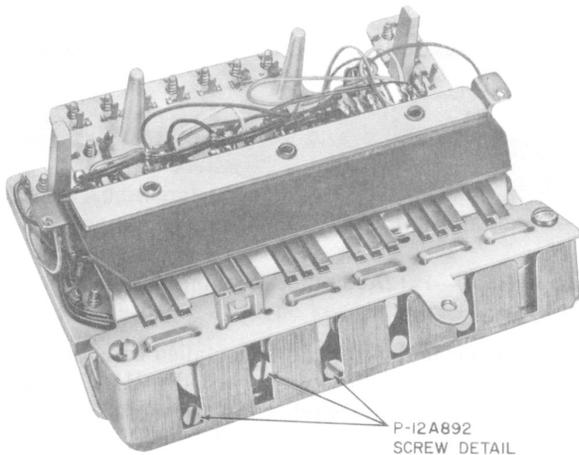

Fig. 4—636A Key, Bottom
‡ Pickup buttons indicated in the table as (Ps) may be converted to signaling by removing the P-12A892 screw (Fig. 4 and 5) and making necessary wiring changes.
636-Type Key Assembly (Fig. 4 and 6)
3.02 Certain pickup buttons are arranged for conversion to signaling. To convert, remove P-12A892 screw detail (Fig. 4 and 5) and make necessary wiring changes.